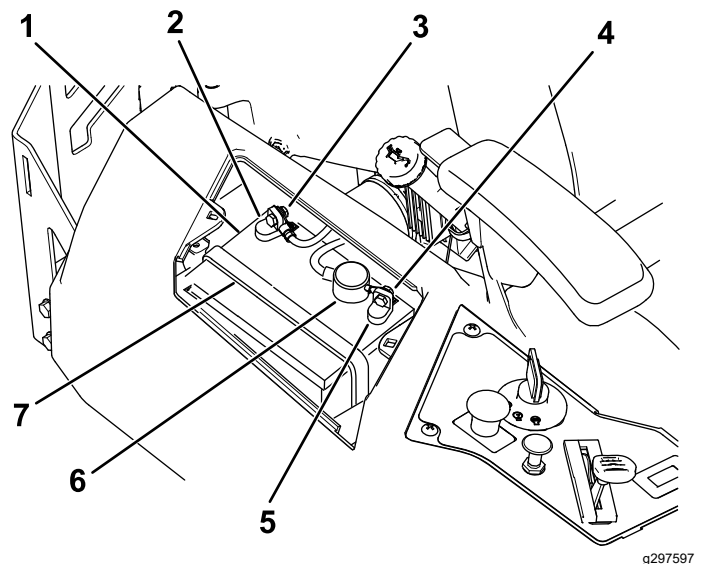

Figure 55
4. Disconnect the negative (black) ground cable from the battery post (Figure 55).
6. Disconnect the positive (red) cable from the battery post (Figure 55).
7. Remove the battery hold-down (Figure 55), and lift the battery from the battery tray.
1. Position the battery in the tray (Figure 55).
5. Secure the battery with the hold-down (Figure 55).